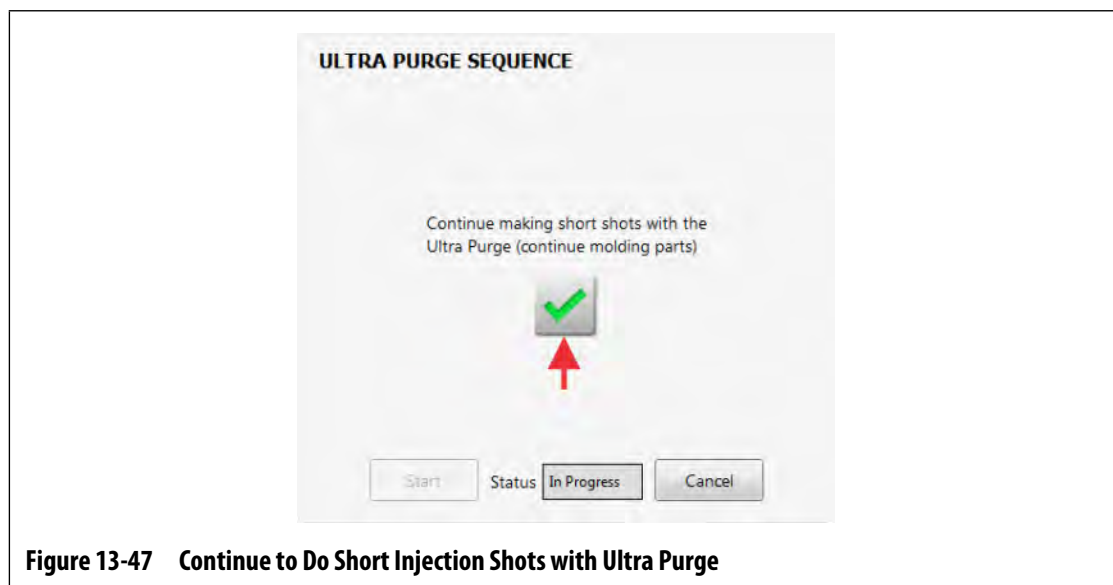

Figure 13-47 Continue to Do Short Injection Shots with Ultra Purge
15. Touch the green check mark when injection shots contain the new production resin (refer to Figure 13-47).